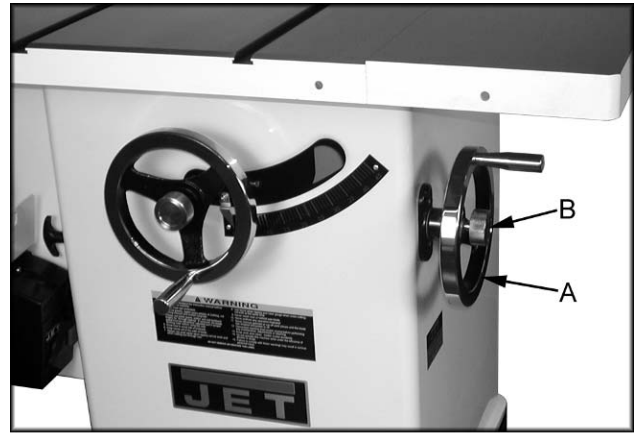

Fig. 4
1. Line up the key on the shaft with the key way in the handwheel (A, Fig. 4) and slide the handwheel onto the shaft.
3. Install center lock knob (B, Fig. 4) by inserting into center hole in the shaft and threading in a clockwise direction.